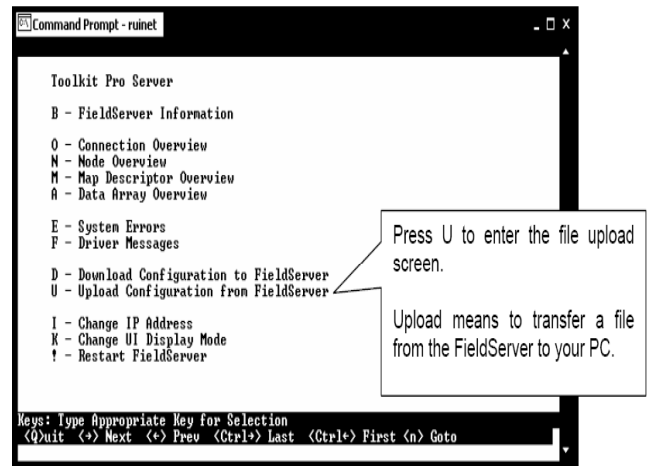
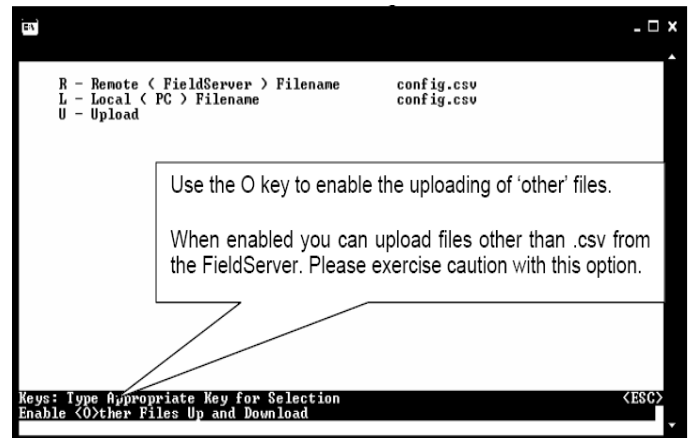

Figure 15: RUINET PT-Link Main Menu - Upload
Figure 16: RUINET PT-Link Upload
9.) Type the letter **** to upload the Config file (Figure 15), then type **** again (Figure 16) for Upload.